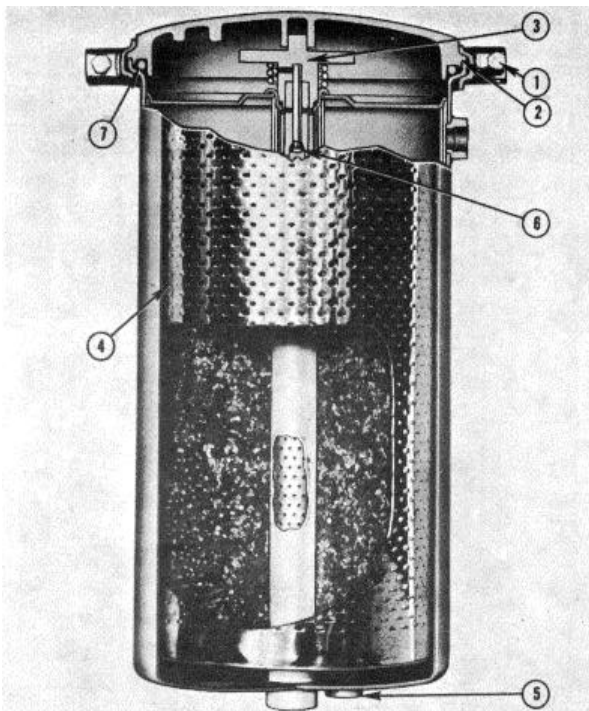
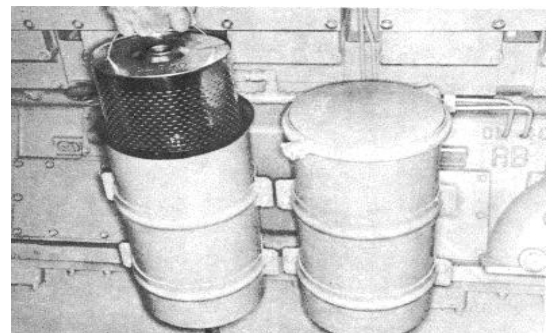

Fig. 2-17, (V41908). By-pass filter cross section
Fig. 2-18, (K21908). Installing by-pass filter element
1. Remove the drain plug (5, Fig. 2-17) and drain oil.
2. Remove the clamping ring cap screw (1) and lift off the cover.
3. Unscrew the support hold-down assembly (3); lift out the element (4) and the hold-down assembly. Discard the element.
7. Check the orifice plug (6) inside the oil outlet connection or standpipe; blow out with air to open and clean.
8. Check the filter cover O-ring (7). Replace if necessary.
9. Install the new element in the housing, Fig. 2-18.